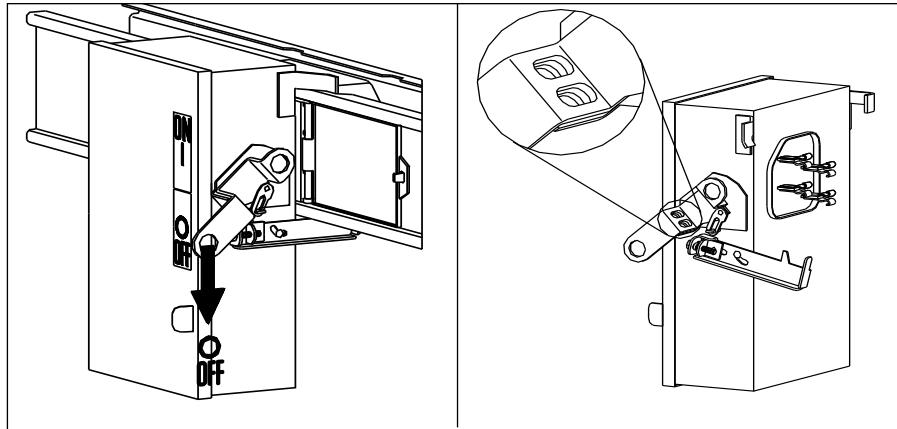

Figure 8: Turning the plug-in unit OFF
1. Turn the plug-in unit handle to the "OFF" position (Figure 8).